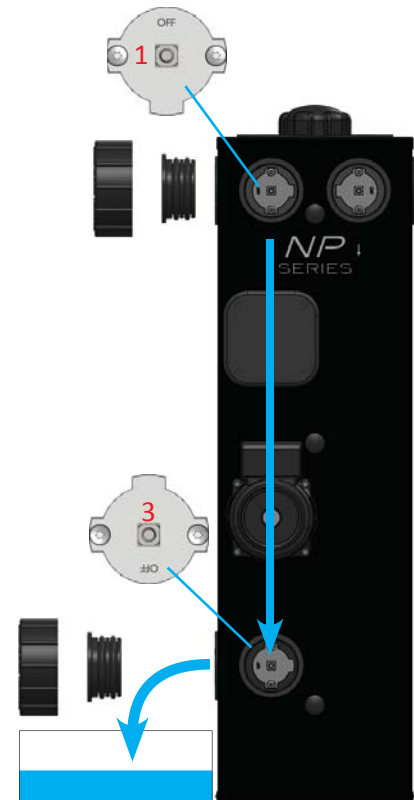

Figure 17: Catching fluid in pump stack when replacing pump motor
3. Remove the cap and plug seal on valve #3. Rotate OFF on valve #3 to the 6-o'clock position and capture the fluid that exits valve #3 in a pan. Retain this fluid to add back to the tank after service is complete (Figure 17).